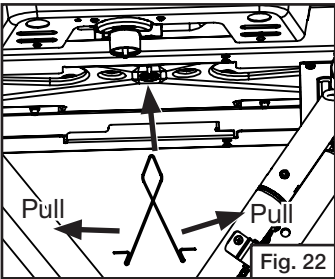

Fig. 22
- Pull apart the grease cup holder and insert it into drip hole on bottom center of grill base. (Fig. 22)